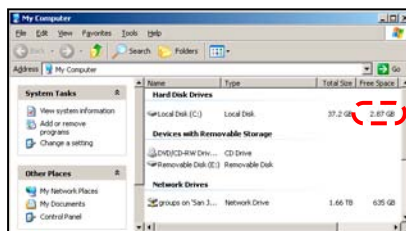

Figure C-2 Sample PC hard drive free space details
2. Select **View > Details** (Figure C-2).